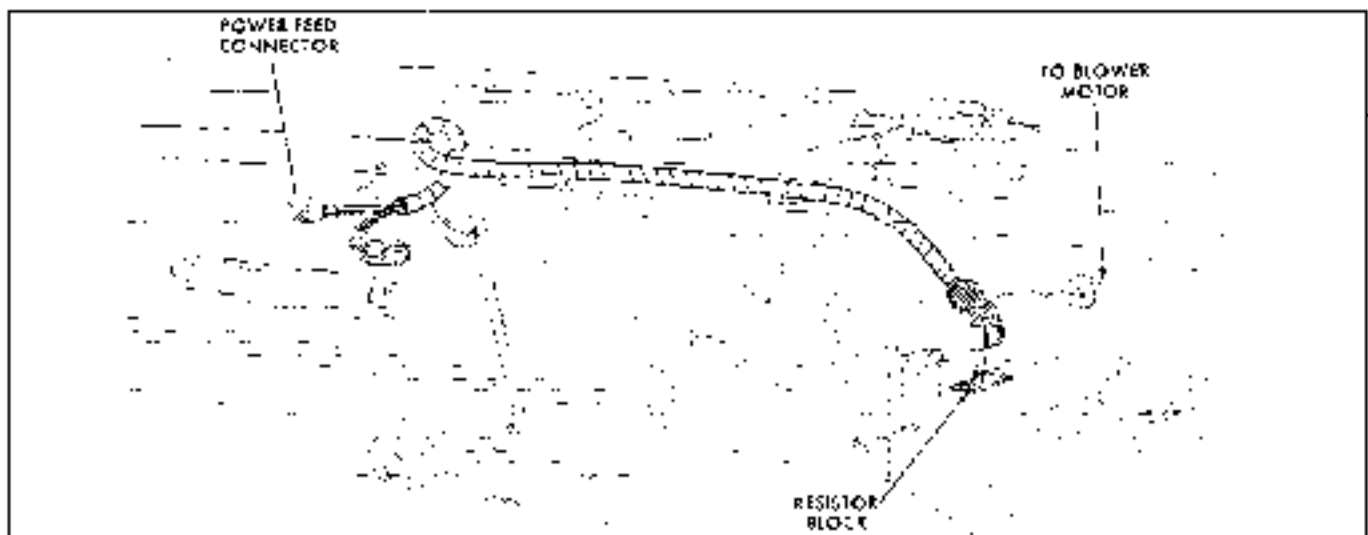

Fig. 1-5 Heater Harness—Typical
HEATER WIRING HARNESS—ALL REMOVE AND REPLACE (Fig. 1-5)
1. Disconnect battery ground and positive cables, and remove battery and tray (Fig. 1-5).